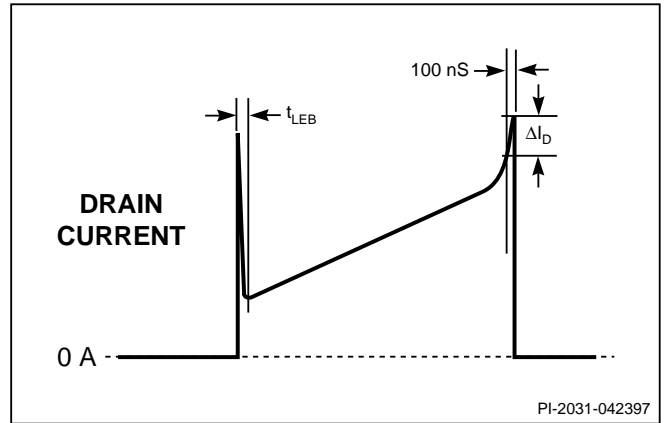

Figure 13. Example of  $\Delta I_D$  on Drain Current Waveform with Saturated Transformer.
2. Related to transformer saturation – see Figure 13.